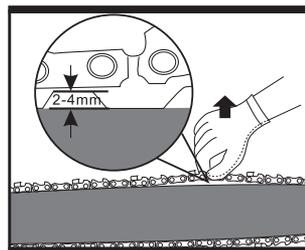

Fig. 11
Then tighten clamp nut (10) with spanner. (See Fig.11 & 12).